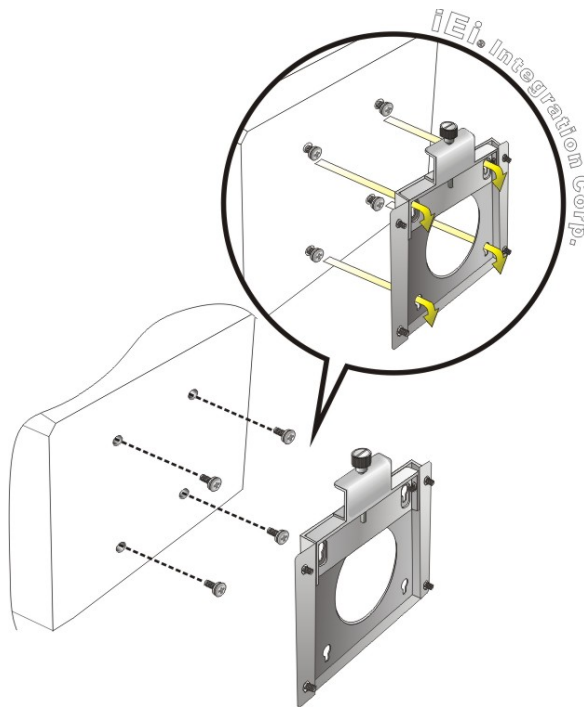

Figure 3-30: Chassis Support Screws
Step 6: Insert the four mounting screws provided in the wall mount kit into the four screw holes on the rear panel of the medical panel PC and tighten until the screw shank is secured against the rear panel (**Figure 3-30**).
Step 8: Carefully insert the screws through the holes and gently pull the panel PC downwards until the panel PC rests securely in the slotted holes (**Figure 3-30**).